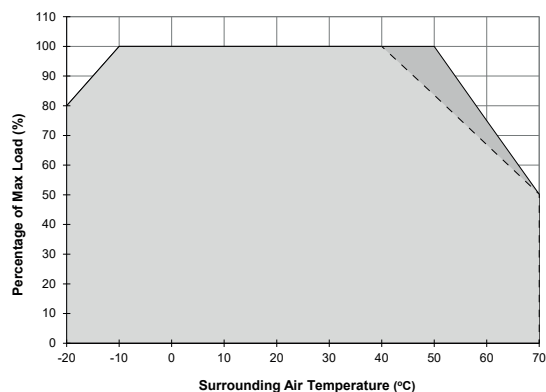

Figure 6
5.4. Thermal behavior (Fig. 6)
Derating	Refer to Fig. 6 -10°C to -20°C (2% / °C), > 40°C (1,67% / °C) @ 115Vac -10°C to -20°C (2% / °C), > 50°C (2,5% / °C) @ 230Vac
Operating temperature (Surrounding air temperature)	-20°C to +70°C (Refer to Fig. 6)